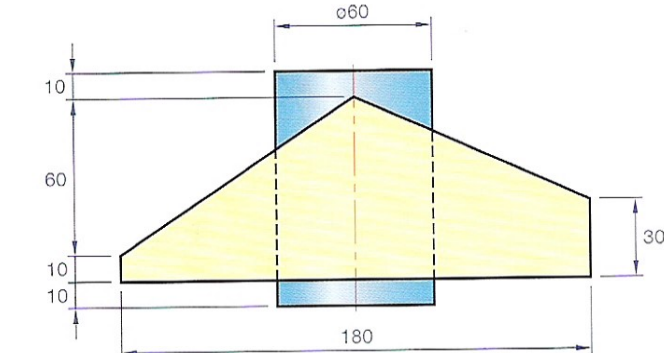

Fig. 11.40a
- (1) Draw the label and the prism.
- (2) Draw a partial development of the prism over the label.
- (3) All points may now be projected from the development onto the elevation.
- (4) Points 1 and 2, the ends of the label must first be found in the plan and then projected to the elevation.
**Given the projection of a cylinder and a label. Draw the elevation of the cylinder when the label is wrapped around it. Fig. 11.40a**